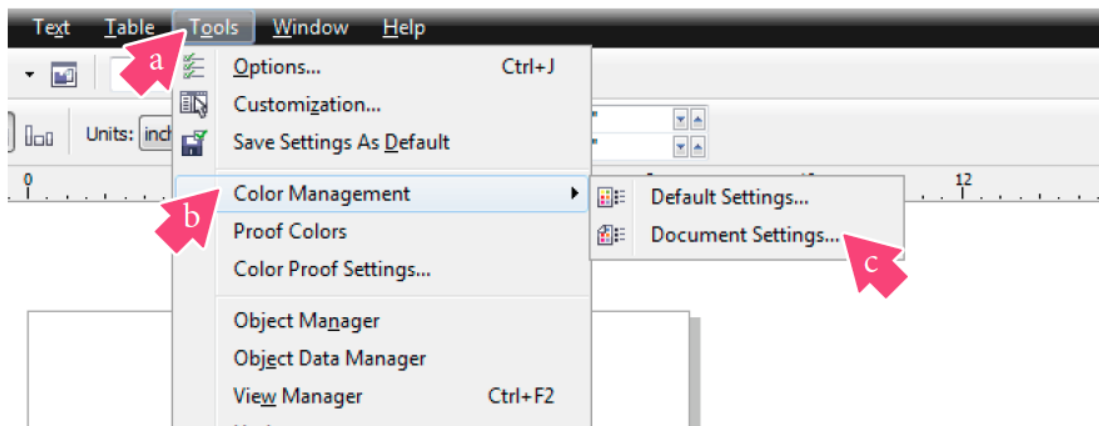

FIGURE 5
5. In the Menu Bar, click **Tools > Color Management > Document Settings**. See Figure 5.